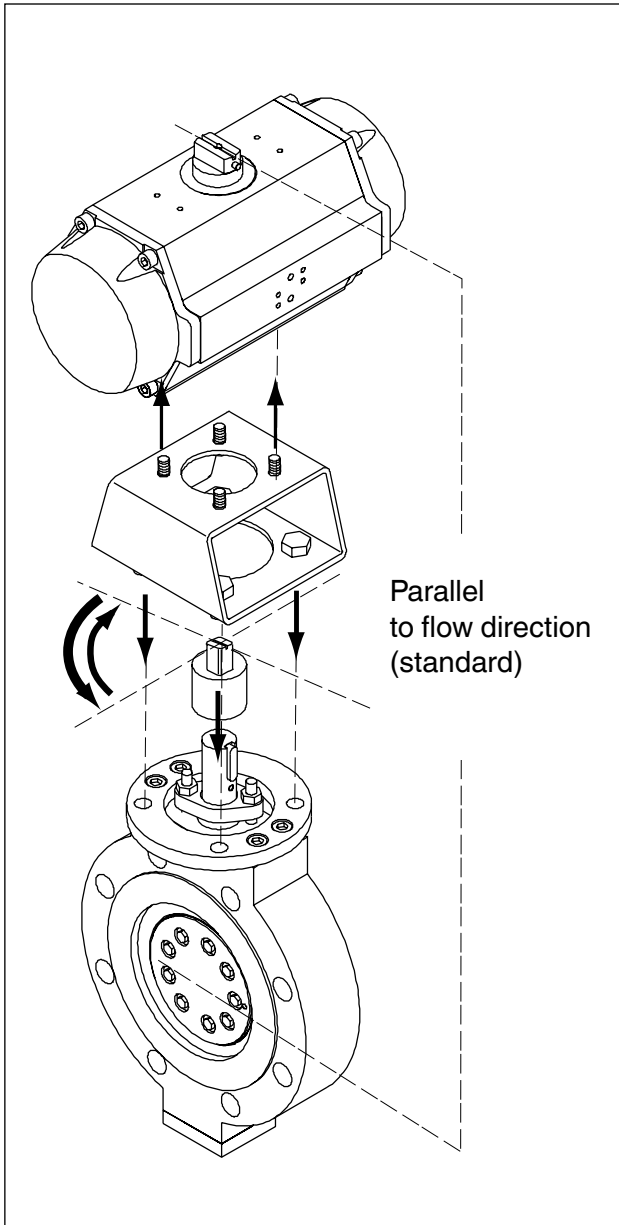

Fig. 6 Mounting an Actuator to the Valve
- Disconnect all connections to the control, unscrew the fastening screws to the mounting flange and take the actuator off the valve, see Fig. 6 in previous section 9.1,
- Before mounting the actuator to the valve make sure that the position indicator is correctly adjusted, see Fig. 6 and section 9.1, Mounting an Actuator to the Valve.